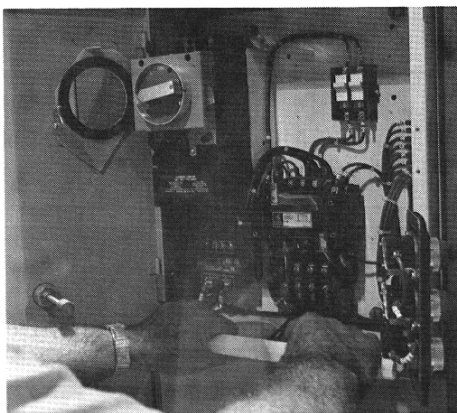

Figure 16.
4. Press down on latch mechanism on bottom of unit and pull the unit partially out until it locks in the intermediate withdrawn position (with latch mechanism released). (Figures 16 and 17)